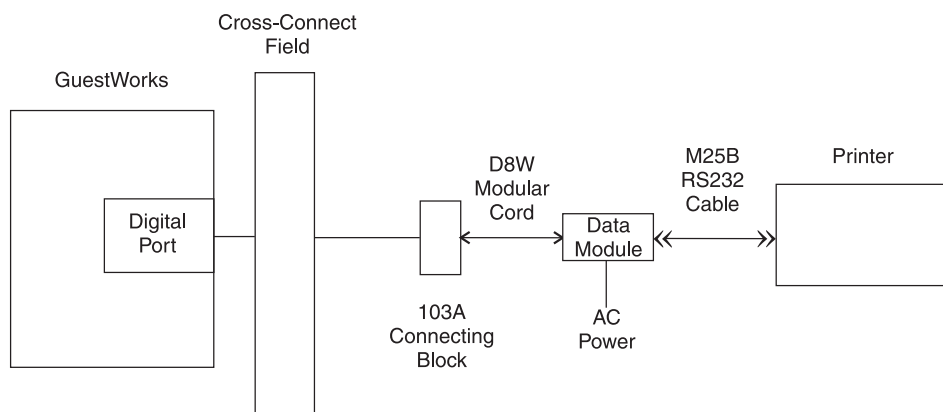

Figure 18. Printer Connections on the Switch
Figure 18 shows how to connect a journal/schedule printer, a PMS log printer, or a system printer to the switch.
5. Reconnect the unit as shown in Figure 18.
6. Reconnect the unit as shown in Figure 18.